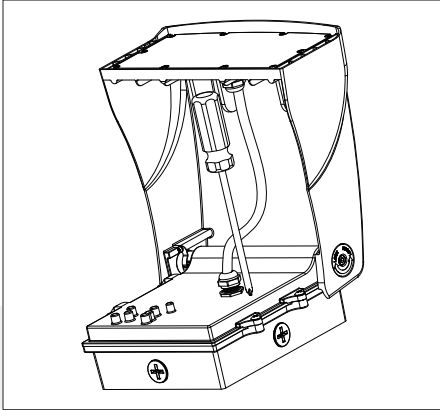
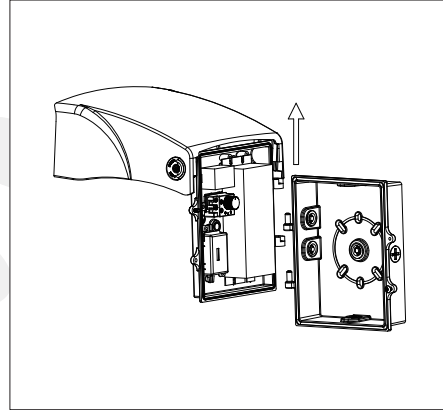

Figure 3
Figure 4
Step 2: Use a screwdriver to remove the screws on the driver box cover and separate the driver box from the radiator (Figure 3 & Figure 4).